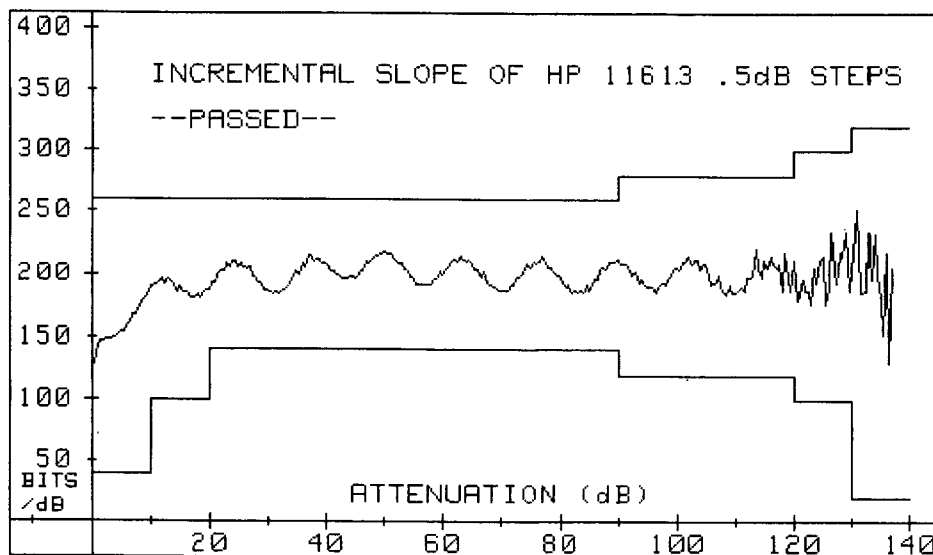

Figure 6-6. Operator's Check with HP 8757A Graph
8. The "Incremental Slope of HP 11613 .5dB Steps", test plots the slope of each 0.5 dB step in the HP 11613B. Figure 6-6 is a typical plot. Variations in slope are also computed but are not displayed unless they are out of limit.